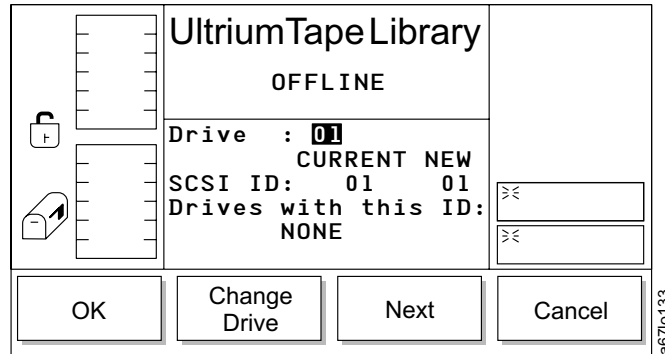

Figure 55. Drive SCSI Dialog
2. Select **Setup** → **Drives** → **Loop/SCSI**. The Drive SCSI Dialog screen displays (see Figure 55). The current drive is the value in the Drive: field. The existing drive's SCSI ID is the value in the SCSI ID: CURRENT field.